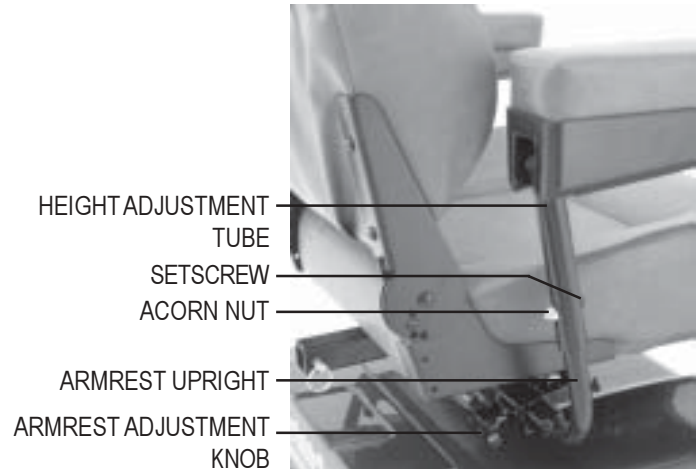

FIGURE 16. ARMREST ADJUSTMENTS
1. Loosen the armrest adjustment knobs at the back of the seat frame. See figure 16.